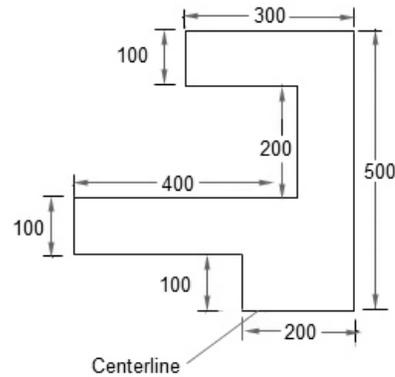
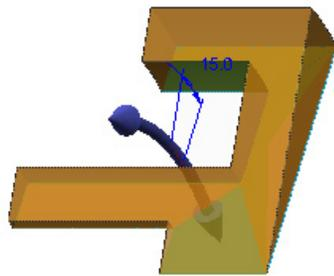

Figure 3-33 Sketch created
Figure 3-34 Preview of the revolve feature displayed
- Draw the sketch for the revolved feature and a centerline to revolve it, refer to Figure 3-33.
Figure 3-33 shows the sketch created for creating the revolved feature.
2. Select the sketch, refer to Figure 3-33; you are prompted to select the axis or straight edge for axis of rotation.
3. Select the edge of sketch as centerline, refer to Figure 3-33; the preview of the revolve feature is displayed with default revolve value, as shown in Figure 3-34. Also, the live toolbar is displayed. You can use the middle mouse button to orient the model.